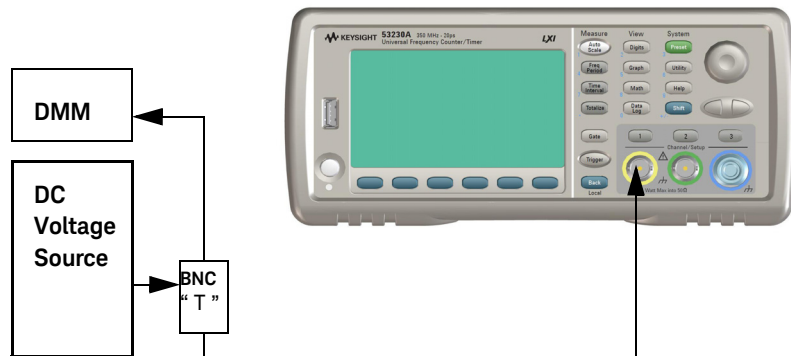

Figure 2-6 DC voltage source and DMM connections
- 10 Connect the DC voltage source to Channel 1 on the counter front panel as shown in Figure 2-6.